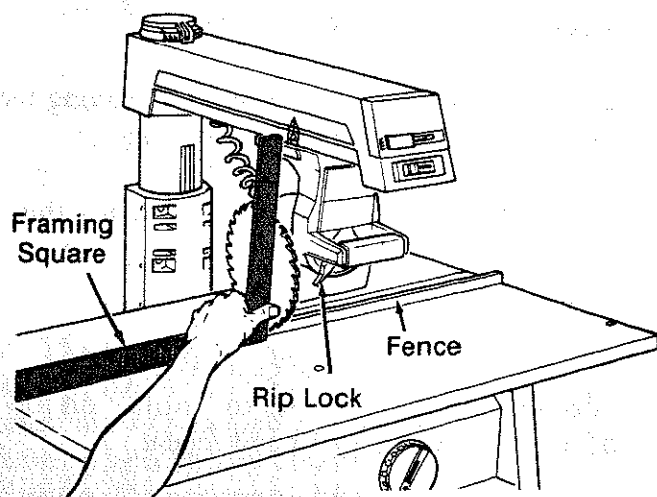

Fig. 56
3. Place the long edge of the framing square on the *table* and the short edge against the *blade*. Make sure that the square is against the blade surface and not the set of a tooth. (Figure 56)